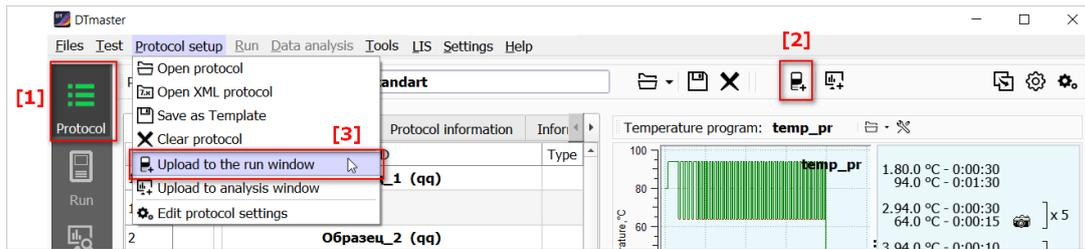

Figure 44 – Loading the protocol from the Protocol mode
1. If the required protocol is already open in the **Protocol** mode [1], then click the **Upload to the run window** button  [2] to load it into the **Run** mode or on the **Protocol setup** menu, click **Upload to the run window** [3] (fig. 44).